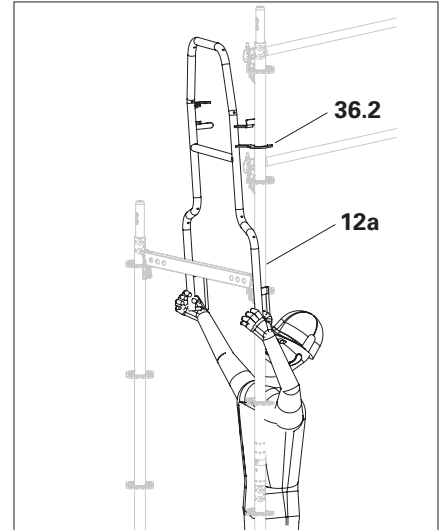

Fig. A5.14b
3. Swing the end guardrail halfway down and hook the fork (36.2) onto the outer standard. (Fig. A5.14b)